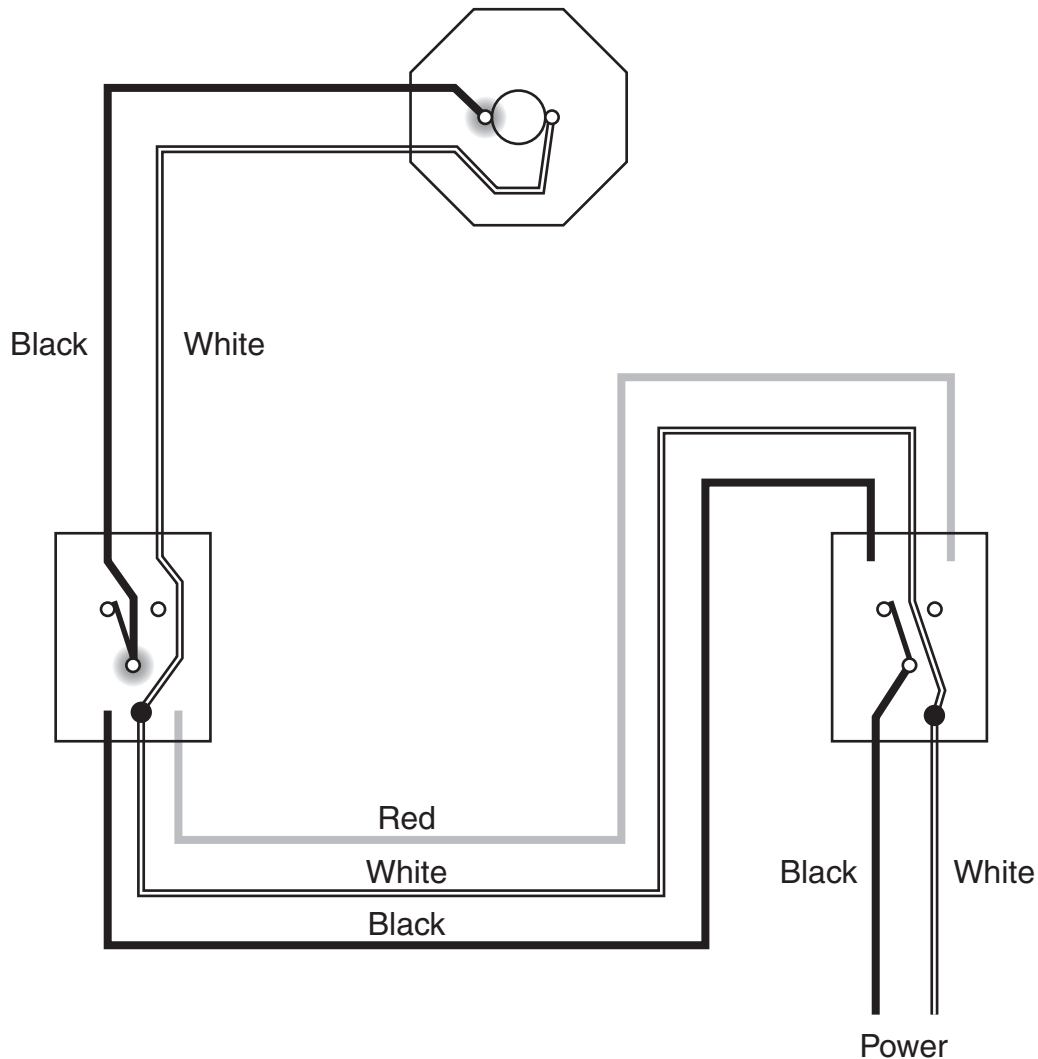

Figure 8-11 Rule 3: Connect the other side of the light to the common terminal of the other 3-way switch.
3. *Connect the other side of the light to the common terminal of the other 3-way switch.* The black wire of the two-conductor cable that runs between the switch box and the light is connected to the common terminal of the second 3-way switch (Figure 8-11).